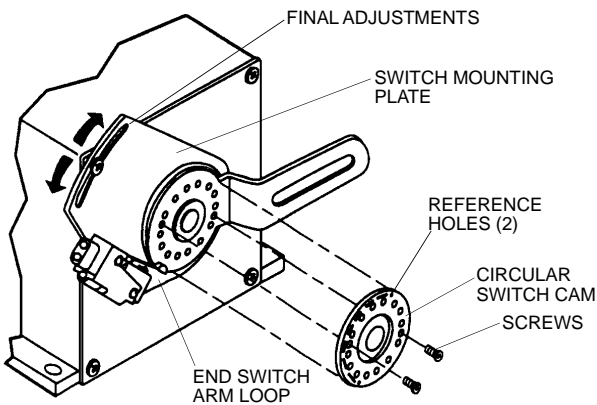

FIGURE 4 - CIRCULAR SWITCH CAM
9. Determine at which point in the actuator crank arm rotation the end switch should close. Install the circular switch cam over the actuator crank arm, positioning one of the small reference holes in the circular switch cam at the end switch close point on the actuator crank arm (See Fig. 4). The two small holes in the circular switch cam are references for the make/break point of the end switch. The portion of the circular switch cam shown with a dotted line in Fig. 4 identifies the cam area that will close the end switch when the actuator crank arm rotates.